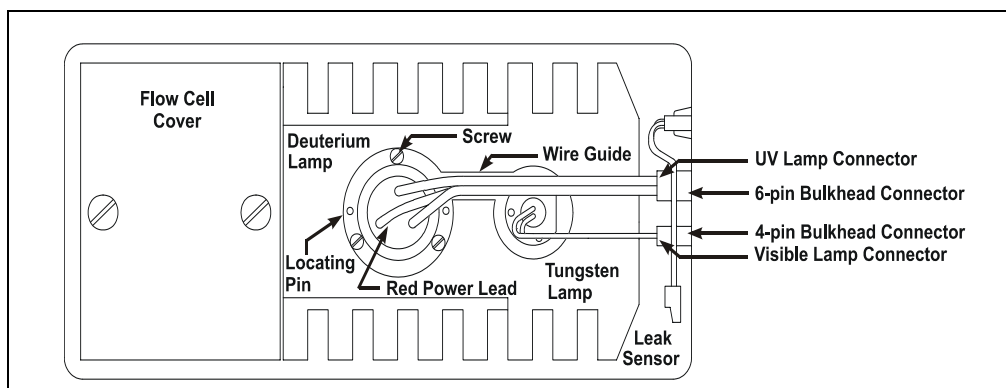

Figure 5-3. Lamp Connections
8. Squeeze the clip on the UV lamp connector and disconnect it from the 6-pin bulkhead connector on the side wall (see Figure 5-3).
9. Loosen the three screws in the deuterium lamp flange (see Figure 5-3) and pull the lamp out of the optical bench.
11. Line up the flange of the new lamp with the two locating pins and three threaded holes in the optical bench (see Figure 5-3). When the flange is aligned, gently push the lamp into the optical bench.
- Squeeze the clip on the UV lamp connector and insert it into the 6-pin bulkhead connector on the side wall. Route the wires through the wire guide in the optical bench (see Figure 5-3).
8. Squeeze the clip on the Vis lamp connector and disconnect it from the 4-pin bulkhead connector on the side wall (see Figure 5-3).
12. Squeeze the clip on the Vis lamp connector and insert it into the 4-pin bulkhead connector on the side wall. Route the wires through the wire guide in the optical bench (see Figure 5-3).